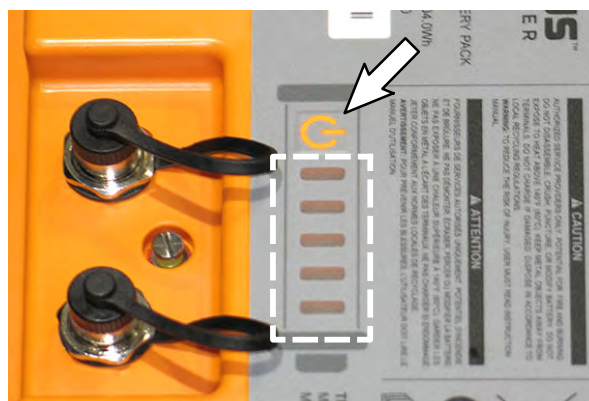

FIG. 1
2. Turn off the lithium battery pack. Press and hold the power button on one of the lithium batteries for 20 seconds to turn the entire battery pack off. (Fig. 1)